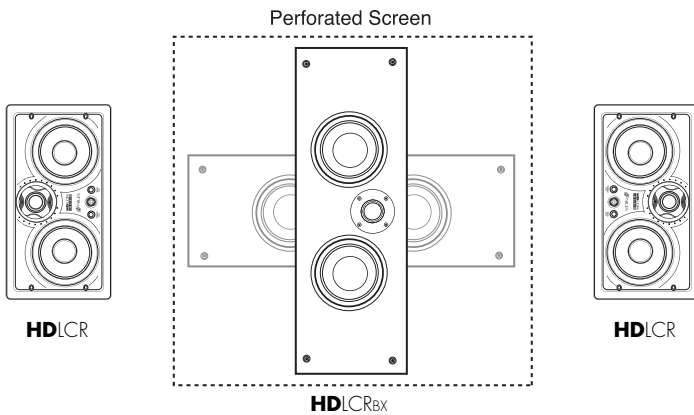

Figure 3. Recommended HDLCR_{Bx} center-channel placement behind a perforated projection screen.
- For installations where a perforated projection screen will be used, place the HDLCR_{Bx}, either horizontally or vertically, behind the screen at ear level, as shown in **Figure 3**.